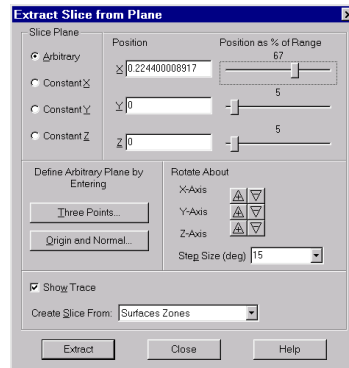

Figure 20-12. The Extract Slice from Plane dialog.
1. From the Data menu, choose Extract, then choose the Slice from Plane option. The Extract Slice from Plane dialog appears as in Figure 20-12.